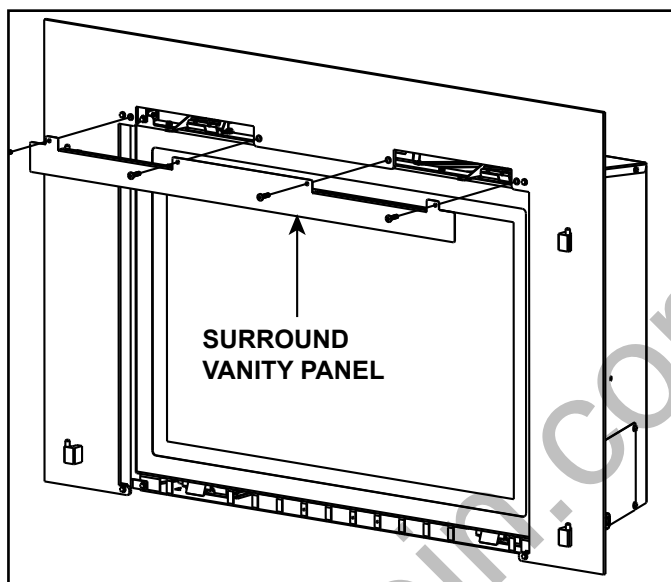

Figure 11.1 Surround Vanity Panel
- Remove the surround vanity panel by removing four 10-24 x 3/4 Phillips pan head screws. See Figure 11.1.